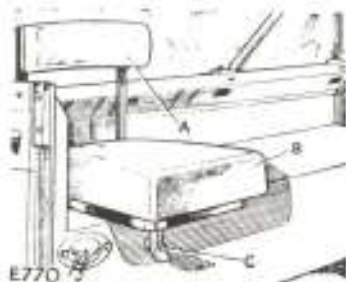

Fig. 132 Operator's seat
351. Two operator's seats are provided (Fig. 132). These are light-weight, quickly detachable seats which rest upon the wheel arches of the vehicle and have hooks on their backs to locate on the sides of the body.
The seats are secured, particularly for cross-country work, by means of a strap fitted to the underside of the seat which locates on a stud (Fig. 132 (C)) fitted to the side of each wheel arch.